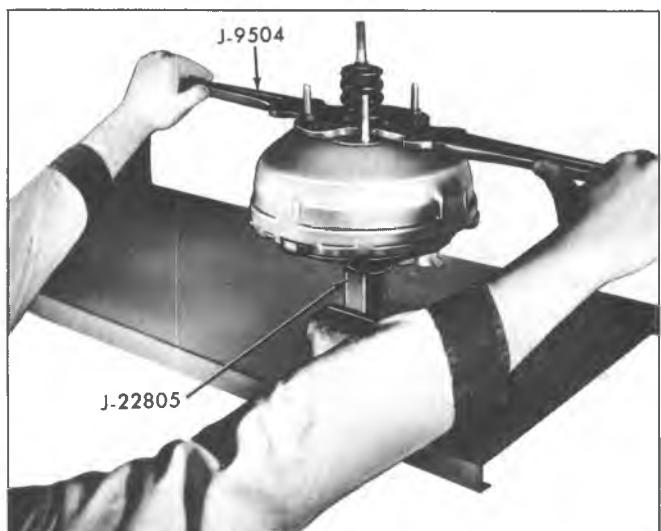

Fig. 5-2A--Unlocking Front and Rear Housings
1. Attach base of Holding Fixture J-22805 to front housing with nuts and washers and draw down tight to eliminate damage to studs. Clamp base in a bench vise with the power section up (fig. 5-2A).
a. **Straight Mounting Bracket (Fig. 5-2A)** - Place Spanner Wrench J-9504 over studs on rear housing and attach with nuts and washers. Draw nuts down tight to eliminate bending or damaging of studs.